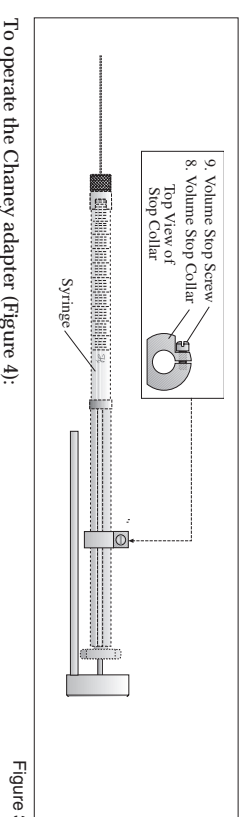
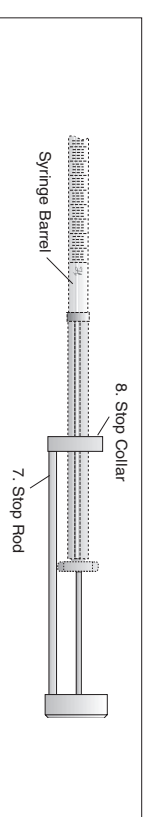

Figure 3
Figure 4
6. Insert the plunger into the barrel and thread the syringe barrel into the holder assembly (Figure 3).
7. Loosen the screw (9) on the stop collar (8), and slip the collar over the syringe barrel and onto the holder.
- a. Pull out the plunger to the required volume. Bring the collar in contact with the stop rod (7) (Figure 4).
- b. Tighten the stop collar screw (9).
To operate the Chaney adapter (Figure 4):